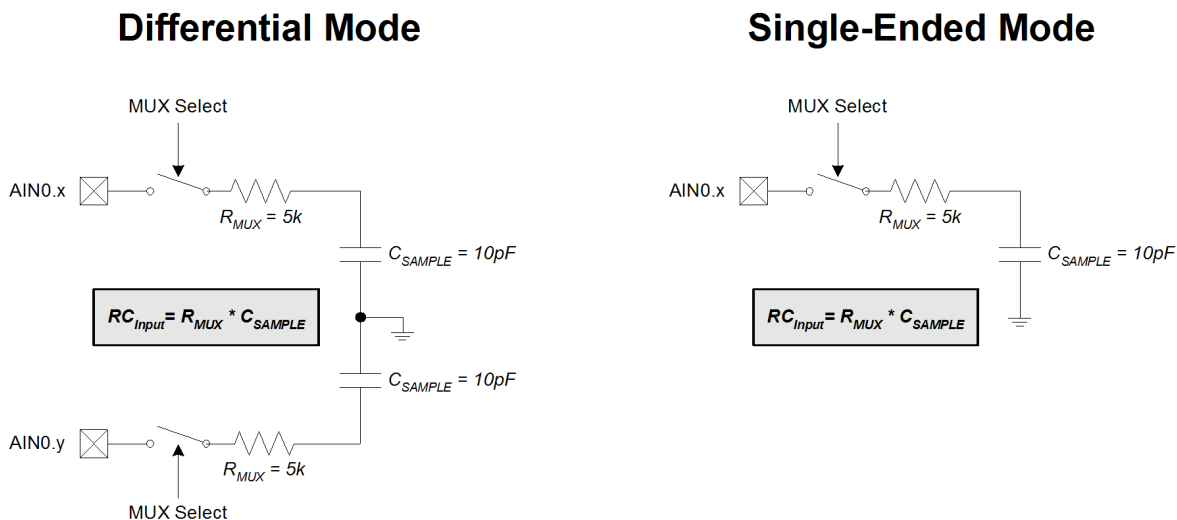

**Figure 6.5. ADC0 Equivalent Input Circuits**
A minimum tracking time is required before an accurate conversion can be performed. This tracking time is determined by the ADC0 MUX resistance, the ADC0 sampling capacitance, any external source resistance, and the accuracy required for the conversion. Figure 6.5 shows the equivalent ADC0 input circuits for both Differential and Single-ended modes. Notice that the equivalent time constant for both input circuits is the same. The required settling time for a given settling accuracy (SA) may be approximated by Equation 6.2. When measuring the Temperature Sensor output,  $R_{TOTAL}$  reduces to  $R_{MUX}$ . Note that in low-power tracking mode, three SAR clocks are used for tracking at the start of every conversion. For most applications, these three SAR clocks will meet the tracking requirements. See Table 6.2 for absolute minimum settling/tracking time requirements.